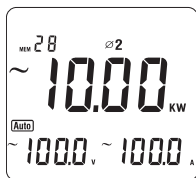

Figure 9
- After sum up the current power measurement value of the first phase, then press **SELECT** to choose the second phase  $\varnothing 2$ , as figure 9.
- After the sum up the current power measurement value of the first phase, then press **SELECT** to choose the second phase  $\varnothing 2$ , as figure 9.